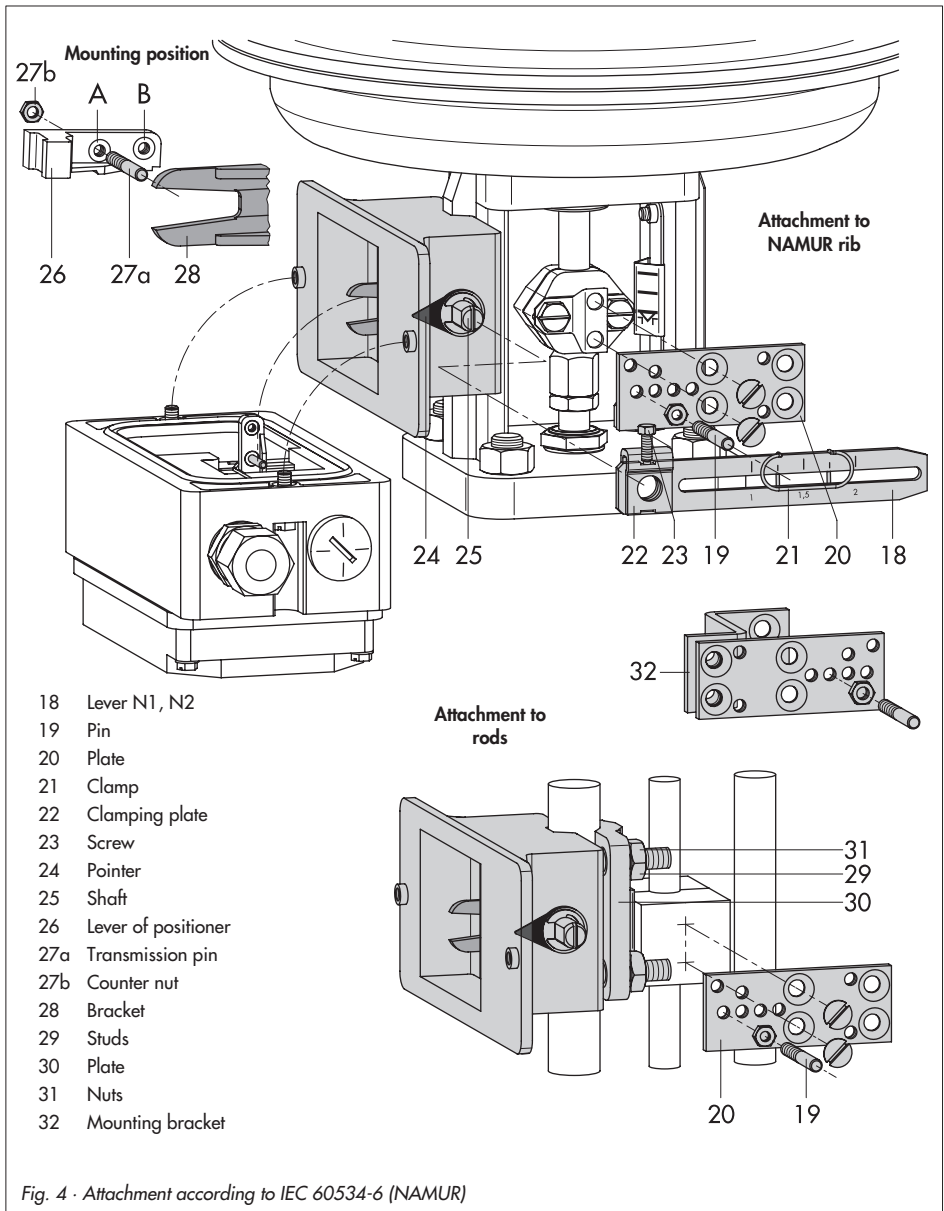

Fig. 4 - Attachment according to IEC 60534-6 (NAMUR)
For positioner attachment according to NAMUR as shown in Fig. 4, an adapter housing is required. The valve travel is transmitted via the lever (18) and the shaft (25) to the bracket (28) of the adapter housing and then to the pin (27) located at the positioner lever.